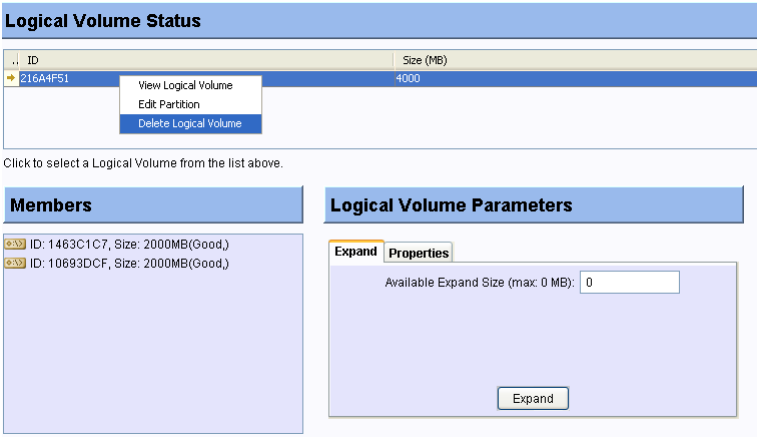

Fig. 9.19 Displaying Logical Volume Edit Mode Menu
1. Select the configured volume you wish to remove with a single mouse-click. Right-click the adjacent area to display a command menu. As shown in *Figure 9.19*, all the LVs that have been created will appear below the Logical Volume Status panel.